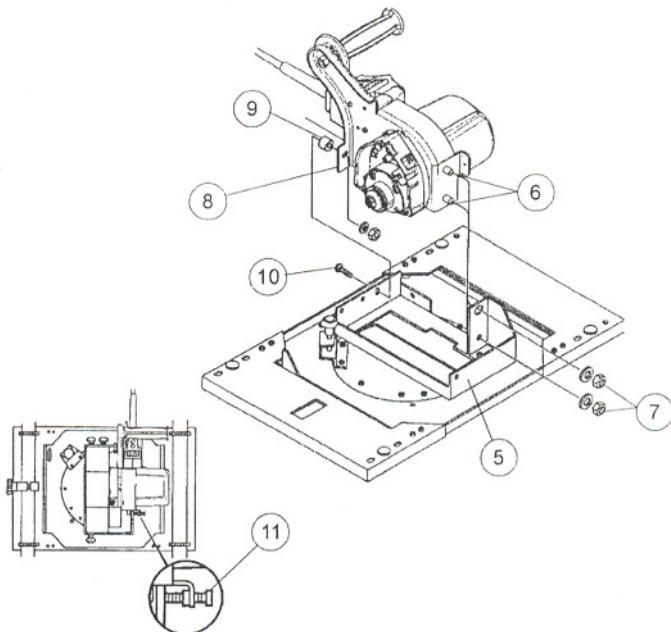

Figure 5: Mounting the Saw Motor (Models C4, C5, H4, H5, H6)
2. Mount the motor to the carriage by inserting the studs (6) on the saw motor through the holes in the turntable (5). See Figure 5. Install the washers and nuts (7), and hand-tighten only.
3. The bracket (8) that extends from the saw handle has a single hole. Place the spacer (9) between the bracket on the base and the bracket on the saw handle. Align that hole with the hole in the turntable as shown in Figure 5, and insert the bolt (10). Install the nut, and hand-tighten only.
4. Make sure the screw (11) on the saw motor plate is flush against the turntable bracket as shown, to ensure the saw is square. This screw (11) is factory-set and does not require adjustment when the tool is being installed.
5. Tighten the **two bottom nuts first** (7), and the top nut (10) last.